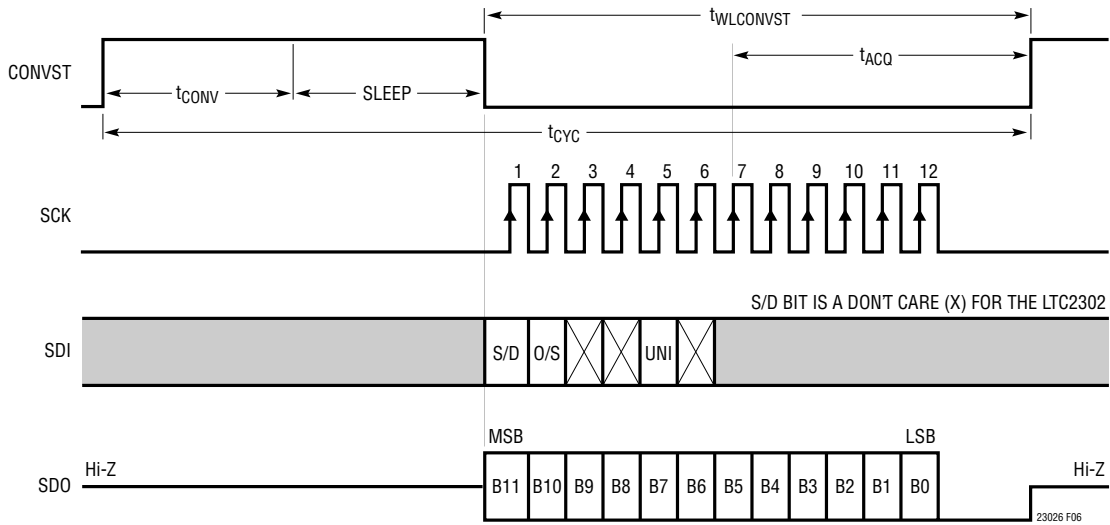

Figure 6. LTC2302/LTC2306 Timing with a Long CONVST Pulse
The software compatible LTC2302/LTC2306/LTC2308 family features a 6-bit D_{IN} word to program various modes of operation. Don't care bits (X) are ignored. The SDI data bits are loaded on the rising edge of SCK, with the S/D bit loaded on the first rising edge (see Figure 6 in the Timing and Control section). The input data word for the LTC2306 is defined as follows:
The start of a conversion is triggered by the rising edge of CONVST. Once initiated, a new conversion cannot be restarted until the current conversion is complete. Figures 6 and 7 show the timing diagrams for two different examples of CONVST pulses. Example 1 (Figure 6) shows CONVST staying HIGH after the conversion ends. If CONVST is high after the t_{CONV} period, the LTC2302/LTC2306 enter sleep mode (see Sleep Mode for more details).